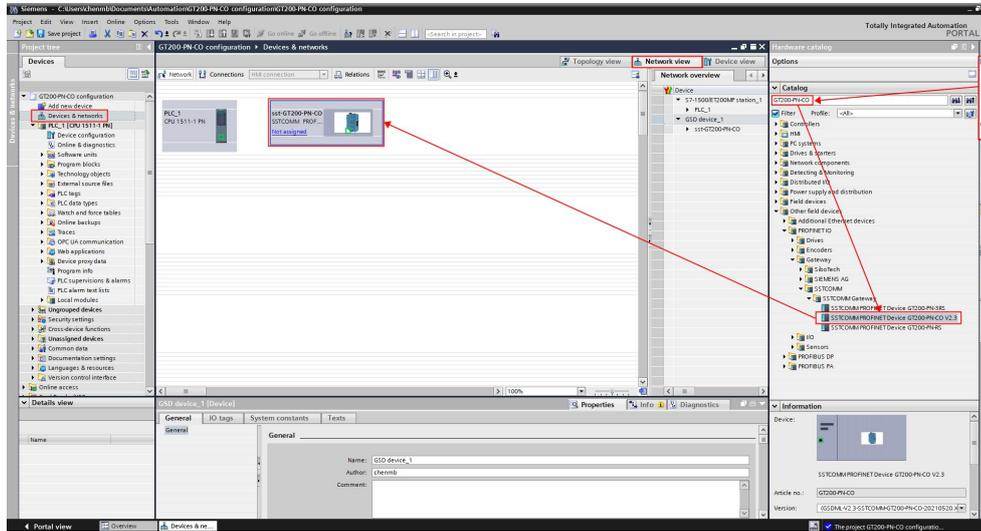

Figure 11: Drag the GT200-PN-CO into the network
3.3 Return to the TIA Portal software, double-click "Devices & Networks", search for "GT200-PN-CO" in the "Hardware Catalog" search bar, select the device and drag it into the "Network View" interface, as shown in Figure 11.